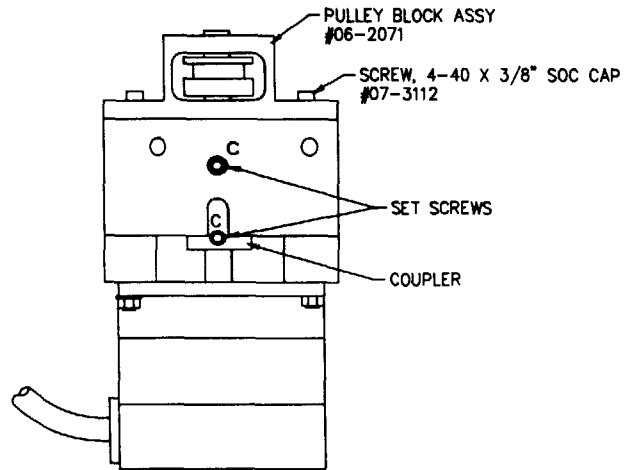

Figure 3-5b. Left X Axis Pulley Block Removal.
- Rotate the pulley so that the coupler set screws on the X Motor can be loosened through access holes 'C'. Loosen the upper set screw. (figure 3-5b)